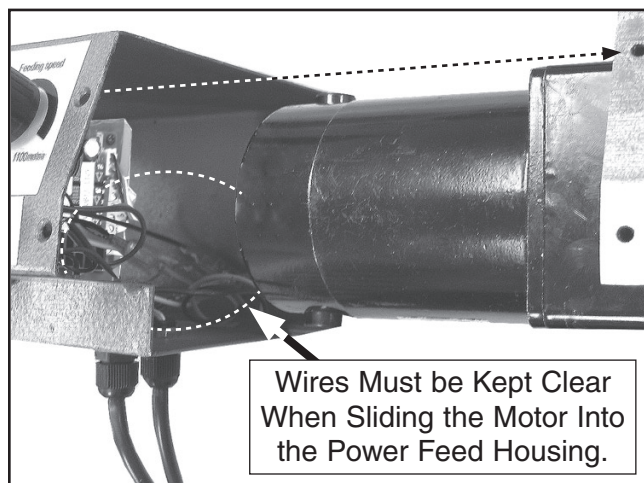

Figure 15. Final assembly.
22. Being careful not to crush or bind the circuit board wires, slide the power feed housing onto the end of the motor (**Figure 15**).